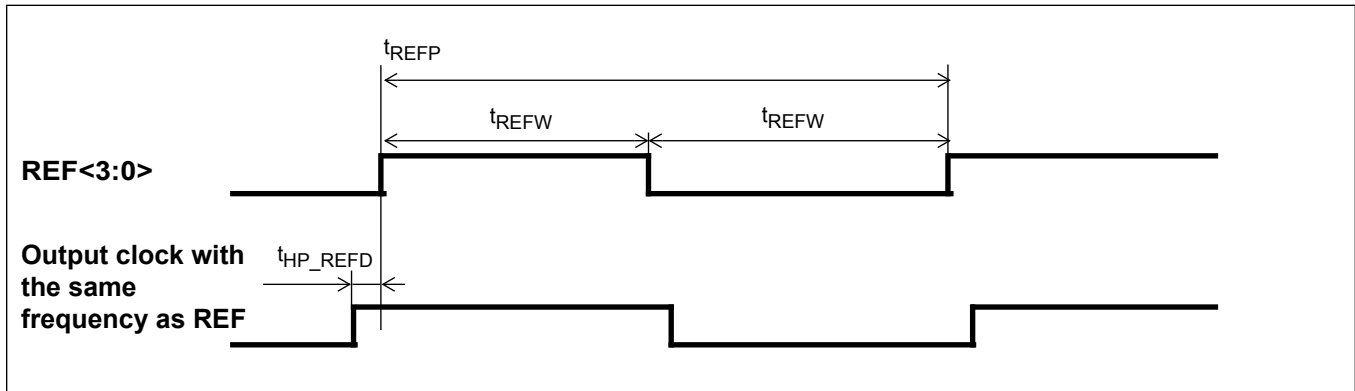

Figure 30 - Input To Output Timing for hputclk0
**AC Electrical Characteristics\* - Inputs (see Figure 30).**
**AC Electrical Characteristics\* - Input To Output Timing (see Figure 30)**